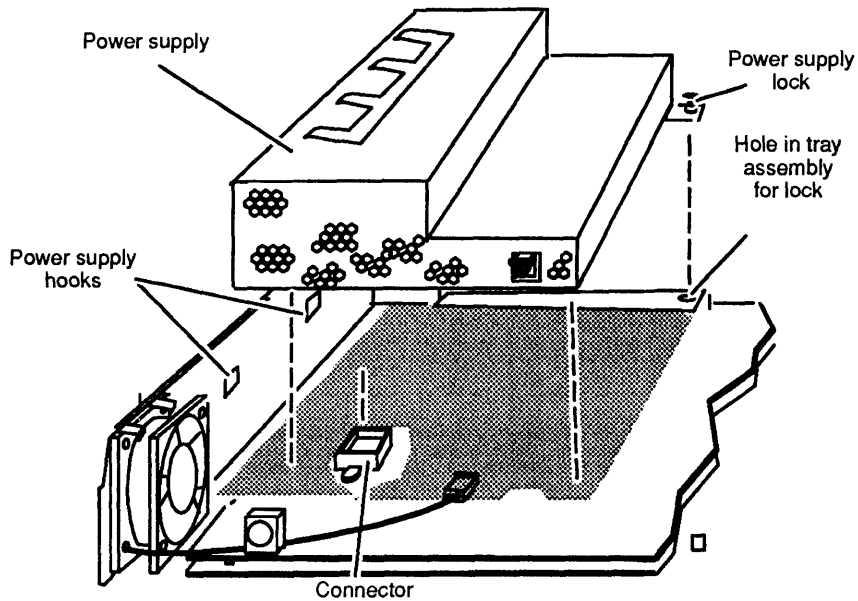

Figure 4-31 Installing the Power Supply
3. Hang the power supply on the two hooks on the inside of the tray assembly's back panel, as shown in Figure 4-31.
4. Loosely align the power supply lock with the hole beneath it in the tray assembly, as shown in Figure 4-31.